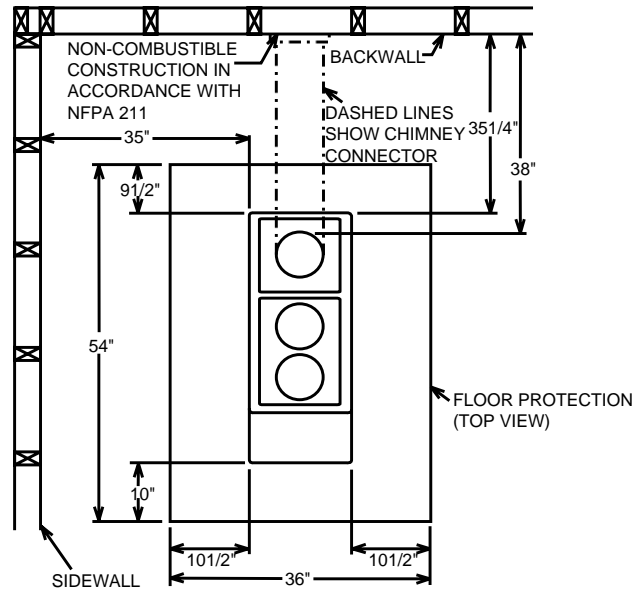

Fig. 5
1. Place the heater on solid masonry or solid concrete. When the heater is used on a combustible floor, use an UL Listed floor protector, such as an American Stoveboard Model UL 3654BP or equivalent. The base should extend at least 18" beyond the door side of the heater and should extend under the flue pipe if it is elbowed towards a wall (Fig. 5).